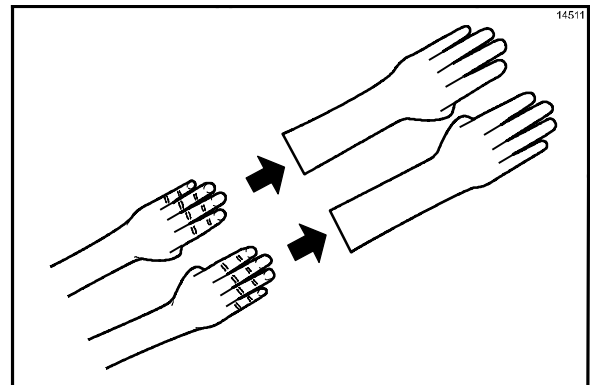

Figure 80
6. Put on heat-resistant gloves. (See Figure 80.)